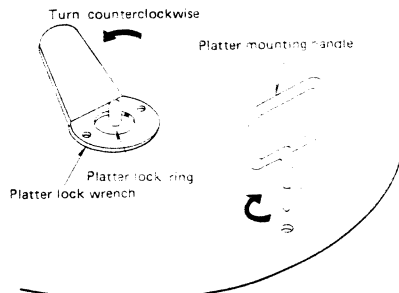

Fig. 8
2. Turn the platter lock ring counterclockwise by using the wrench (attached) to remove the ring. (Fig. 8)
3. Completely fasten the platter mounting handle (attached) into the screw holes (2 portions). (Fig. 8)